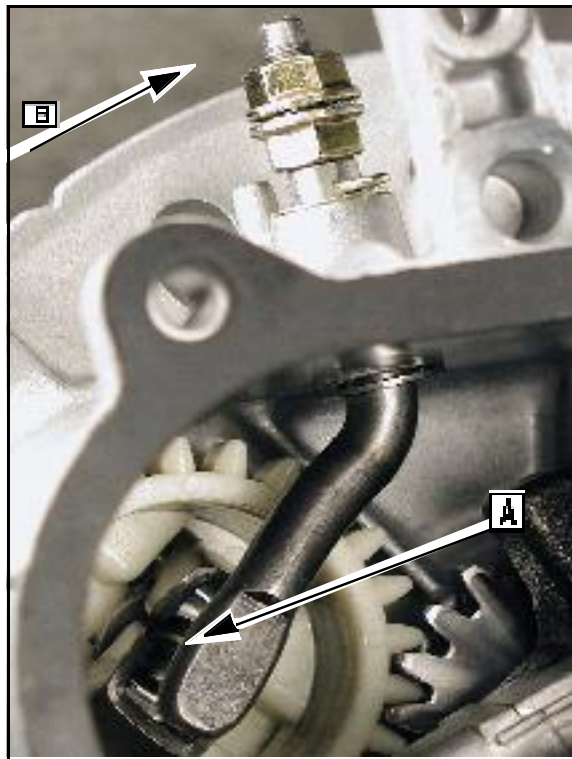

Fig. 2
The end of the cup is in contact with the paddle (A) of the governor crank (B) Fig. 2).